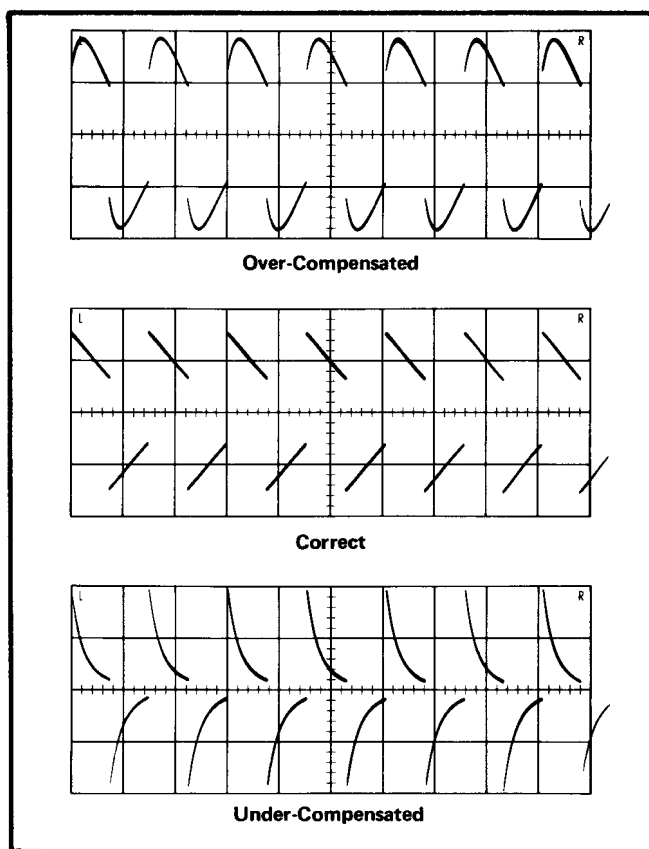

Fig. 5-3. Adjustment of LF COMP.
- h. ADJUST—LF COMP (R154) for a straight but tilted top on the displayed square wave (see Fig. 5-3).
h. ADJUST—LF COMP (R154) for a straight but tilted top on the displayed square wave (similar to Fig. 5-3).